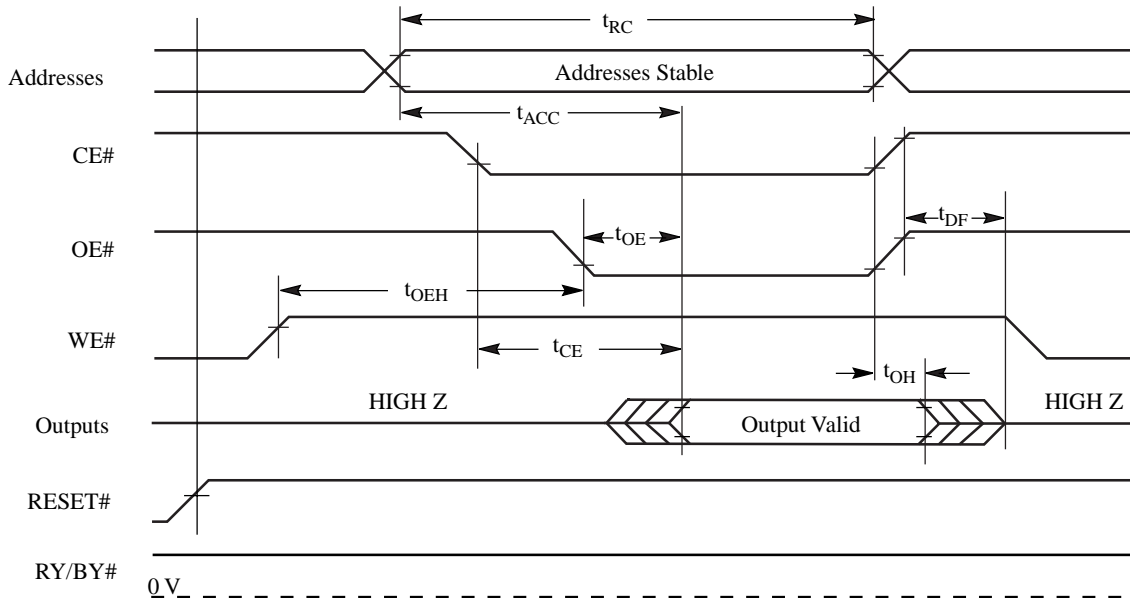

Figure 1. Read Operations Timings
2. See Figure 1 and Table 7 for test specifications.